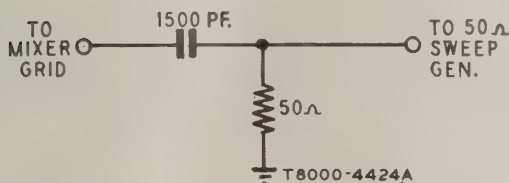

Figure 12 — Mixer Grid Matching Pad
MATCHING PADS.—See Figs. 12 through 17.
- SWEEP GENERATOR** Connect in series with matching pad, shown in Fig. 12, to mixer grid test point on tuner.